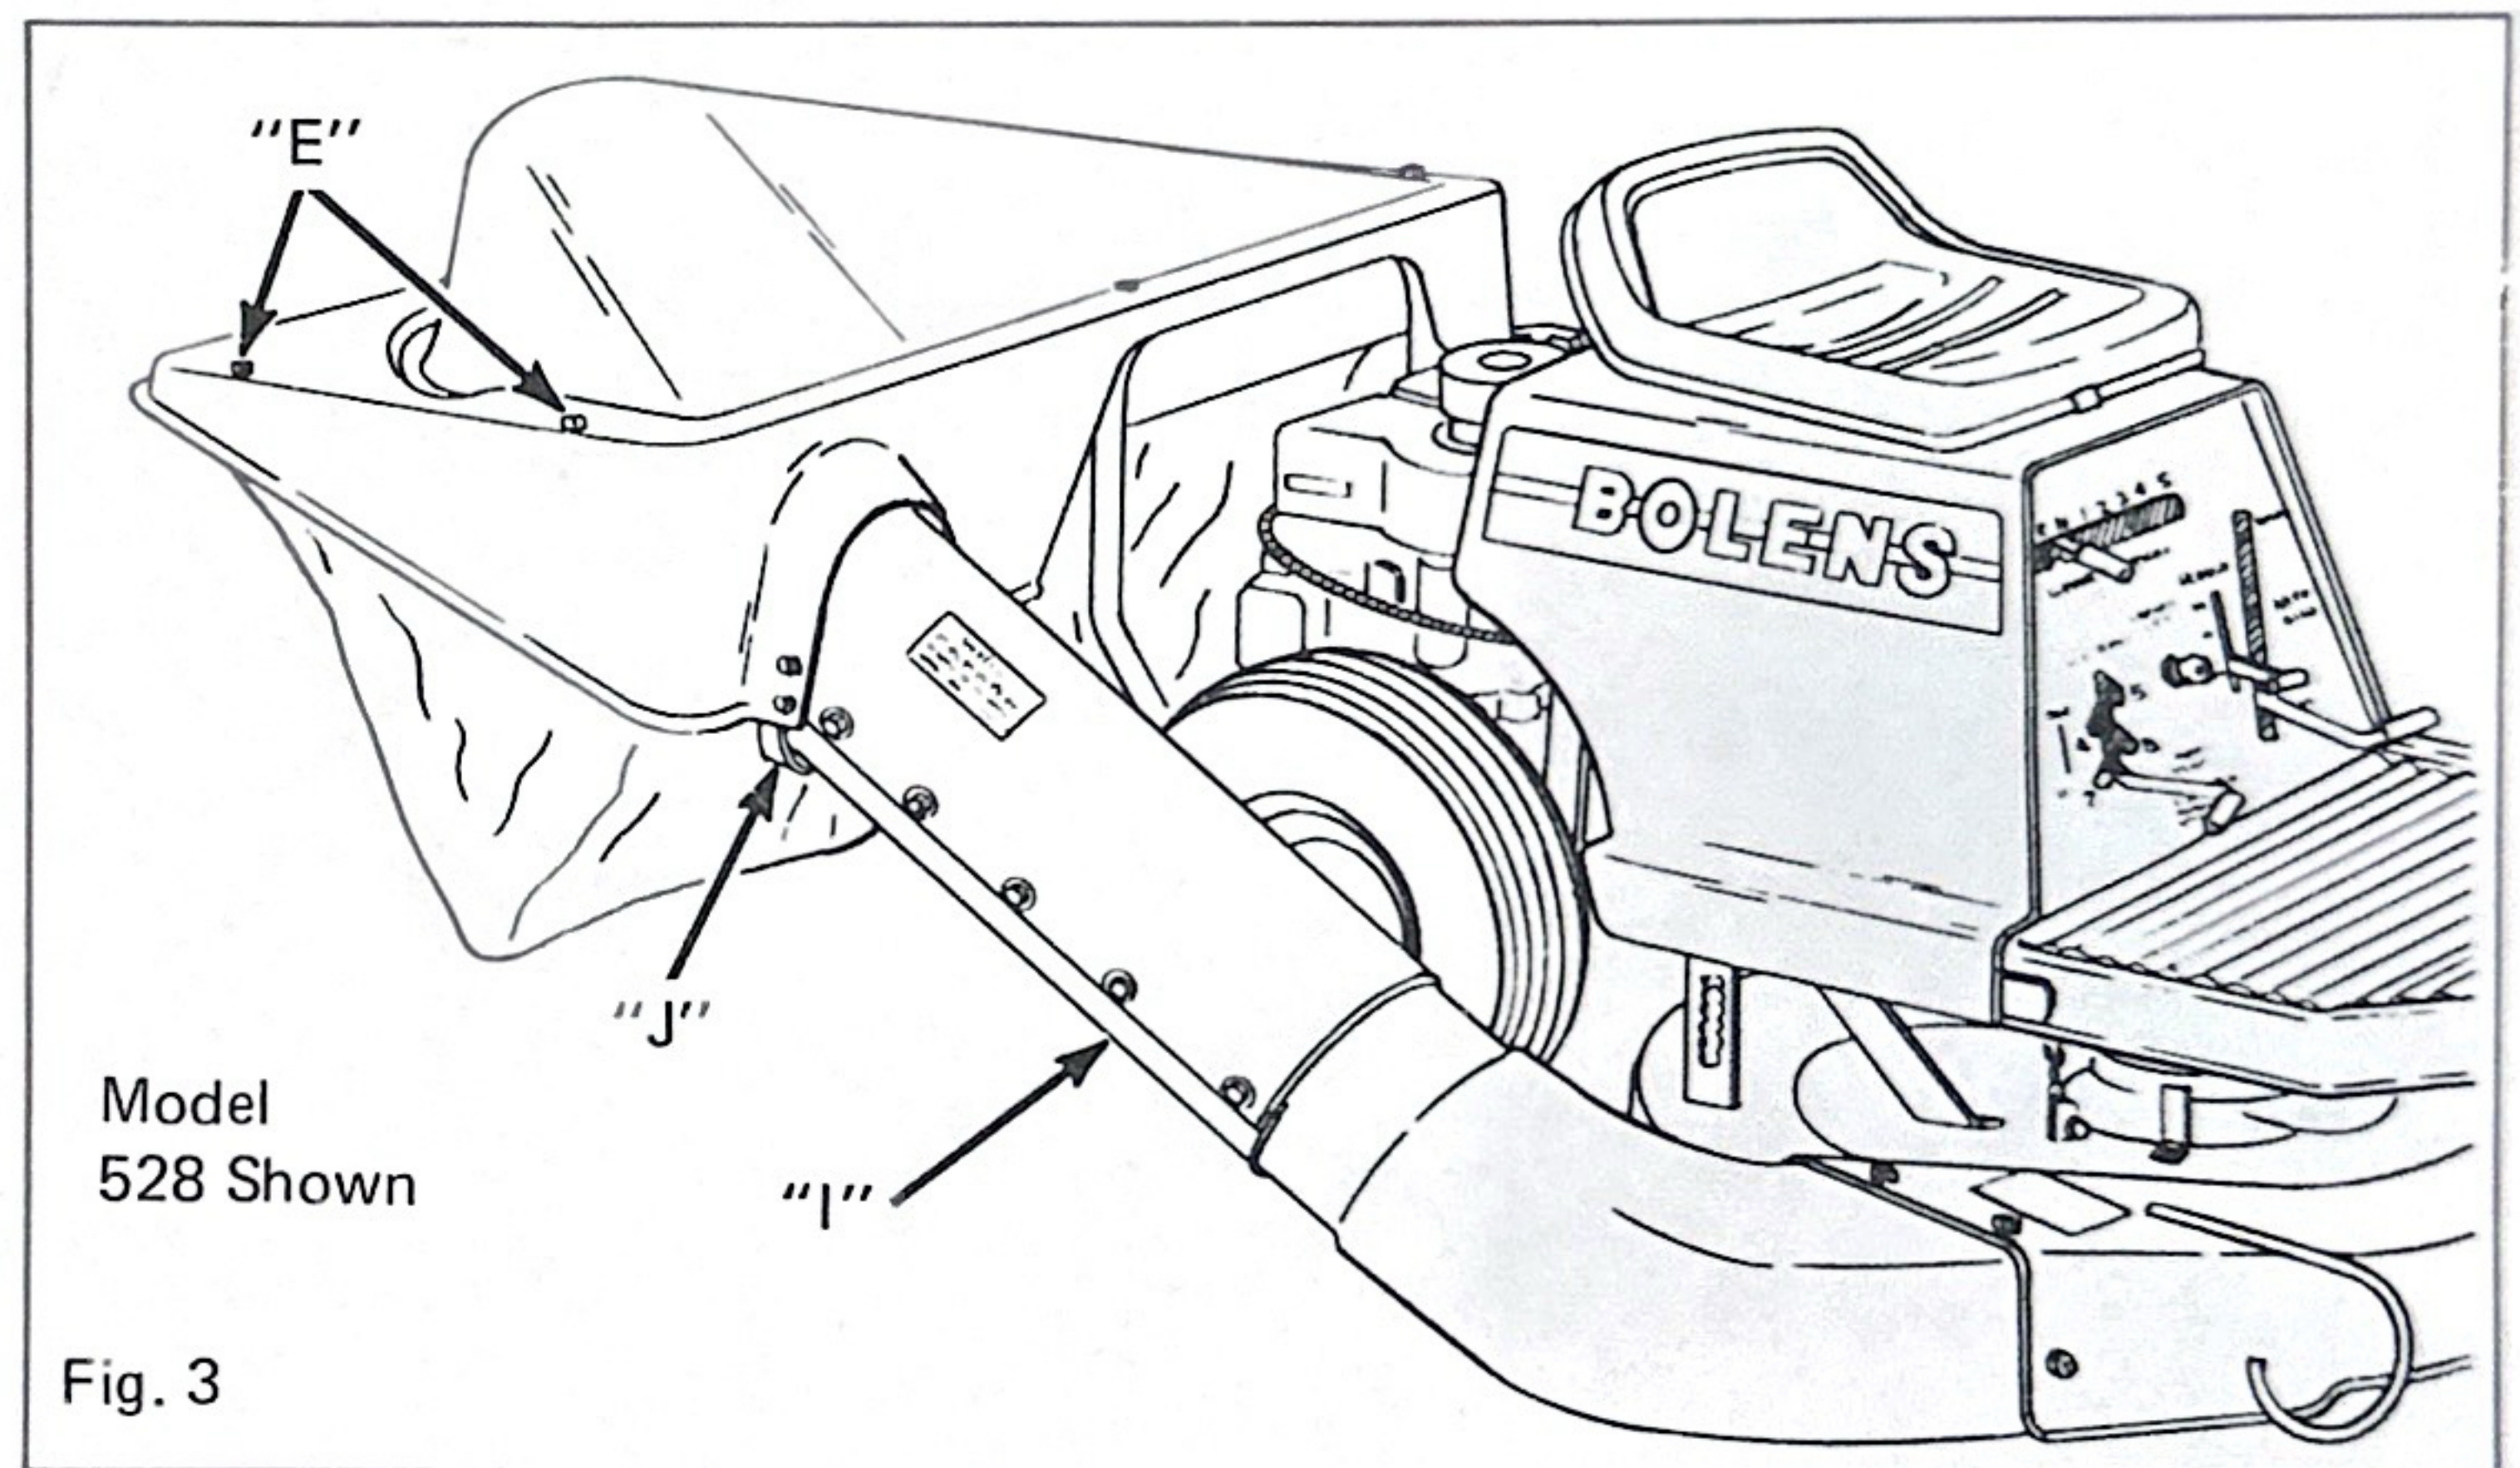

Fig. 3
5. Position cover over frame assembly with aligning studs through the two holes (E) on each side, see Figures 3 and 4. Secure with push-on caps supplied. Secure to frame with three thread forming flange screws 1/4-20 x 1/2, see "F" Fig. 4.
9. Place the two edges of the translucent sheet (I) Fig. 3 with the holes in them, together and align the holes and secure with nine (9) pan head machine screws no. 10-24 x 1/2, flatwashers no. 10, lockwashers no. 10, and hex nuts no. 10-24 with the heads to the inside. This forms the center chute section.
10. Position the above center chute section into catcher and mower as shown in Fig. 3. Install "U" support strap (J) Fig. 3 into chute opening of cover, see Fig. 5. Position strap so it supports the center chute section. NOTE: The chute must not hang on the bag as it will wear the opening. Secure "U" support strap with four (4) pan head machine screws no. 10-24 x 1/2, flatwashers no. 10, lockwashers no. 10, and hex nuts no. 10-24 with heads to the inside.